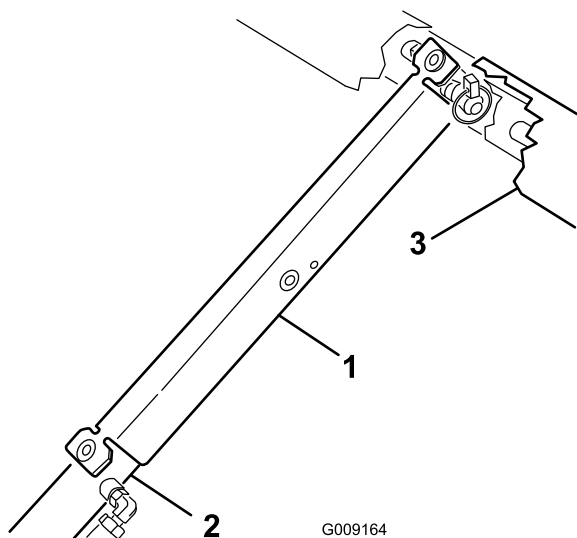

Figure 13
3. Push the safety support onto the cylinder rod, making sure the support end tabs rest on the end of cylinder barrel and on the cylinder rod end (Figure 13).